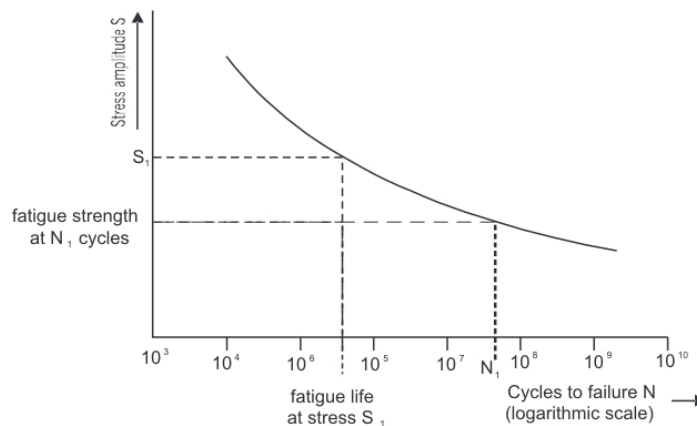

Fig. 2.11: General S-N curve for fatigue failure
If the stress(S) is plotted against the number of stress reversals(N), the curve first falls steadily and then almost runs parallel to the stress reversal axis. The stress at which the curve becomes horizontal is the fatigue limit. Example of this type of curve is shown in figure 2.11 for Steel and Aluminum.